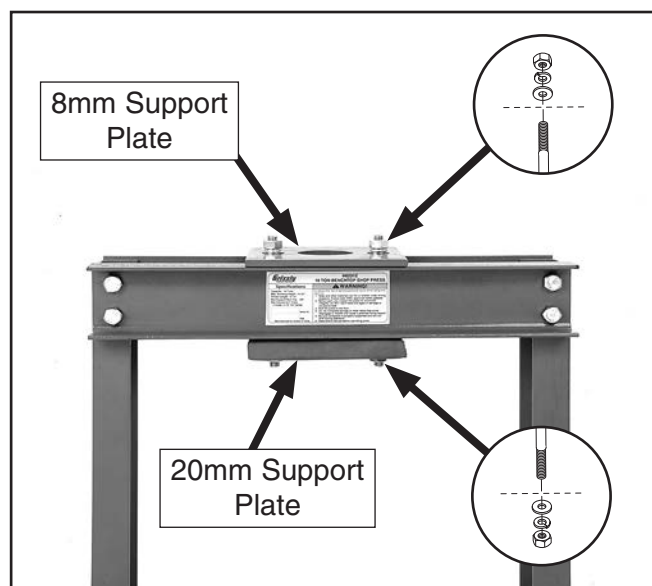

Figure 9. Support plate installed.
9. Install the 8mm and 20mm thick support plates at the center upper U-beams, using a 19mm wrench and the two M12-1.75 studs, four 12mm flat washers, lock washers, and hex nuts as shown in **Figure 9**.